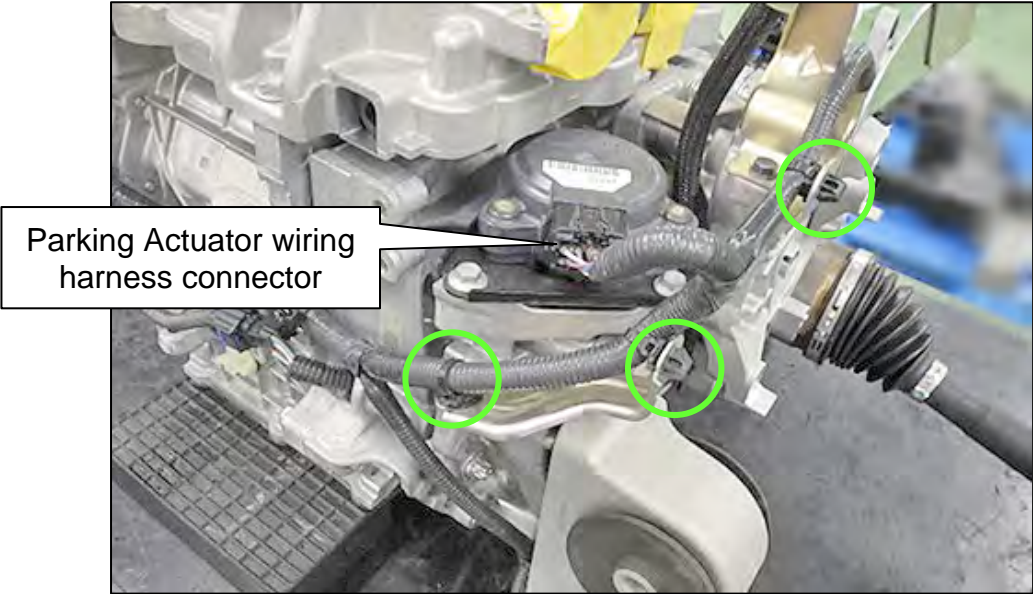

Figure 82
103. Disconnect the Parking Actuator wiring harness connector and three (3) associated wiring harness clips (Figure 82).